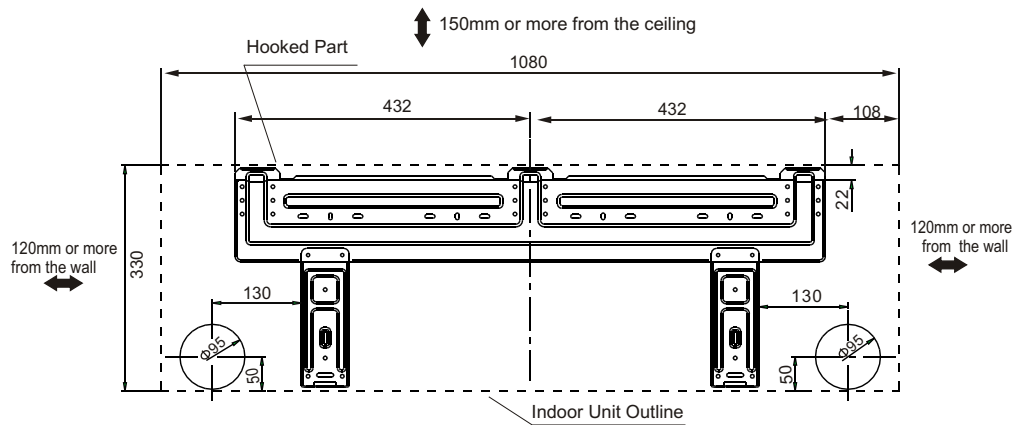

Fig.5
1. Determine hole positions according to the diagram detailed in Fig.5. Drill one (1) hole ($\phi 95\text{mm}$) slanting slightly to outdoor side.